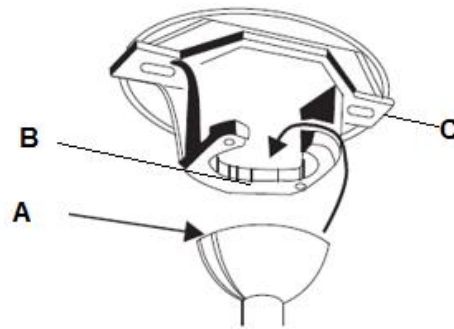

Fig. 6
Lift the fan assembly onto the mounting bracket. Ensure the key slot (A) of the hanger ball is positioned on the key pin (B) of the mounting bracket (C) to prevent the fan from rotating when in operation. (Fig.6)